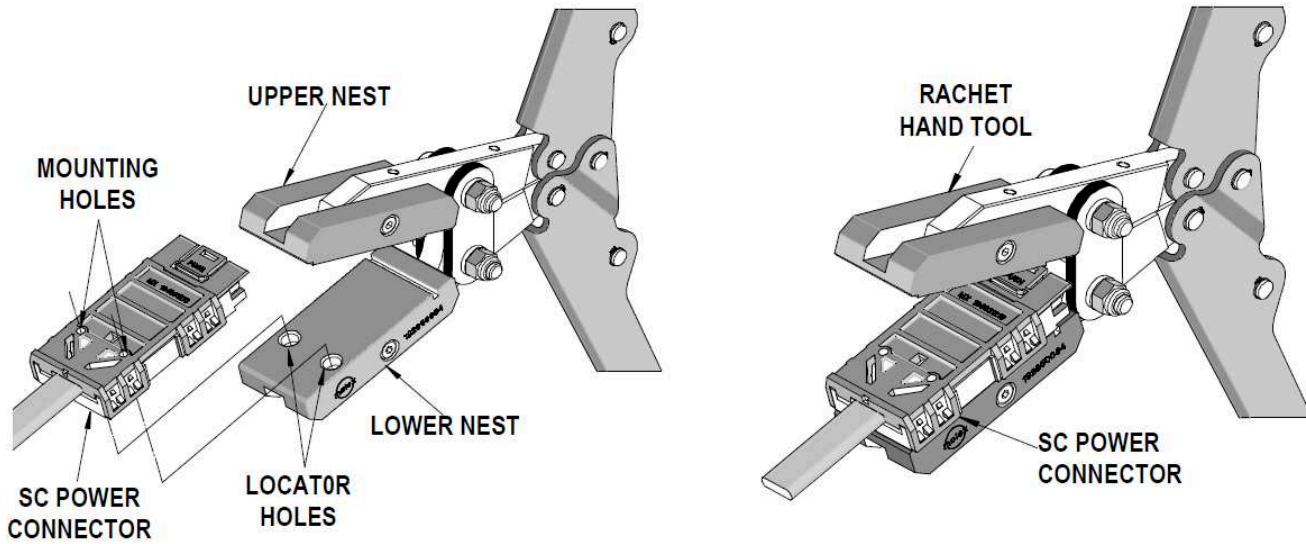
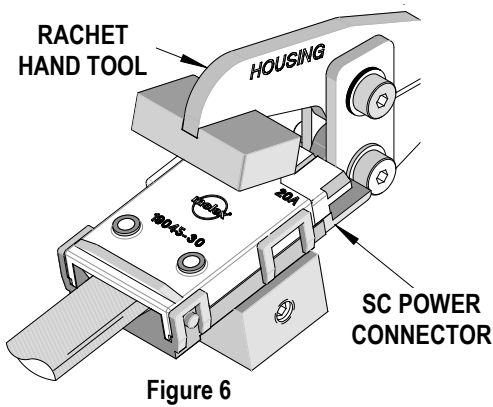

Figure 5
Figure 6
- Close the strain relief cover and housing by hand. Place assembly into Molex tool as shown in **Figure 5** for connector with 4 latches or **Figure 6** for the hinged connector. Squeeze the tool until the connector bottoms out and the locking latches engage on both sides. OR alternately, squeeze the top and bottom closed with tongue and groove (slip joint) pliers as shown in **Figure 7** (Hinged connector assembly shown). Pliers must be a minimum of 10" long. Squeeze firmly on both sides, squarely across the connector between ribs A and B to ensure wires seat completely into slots.